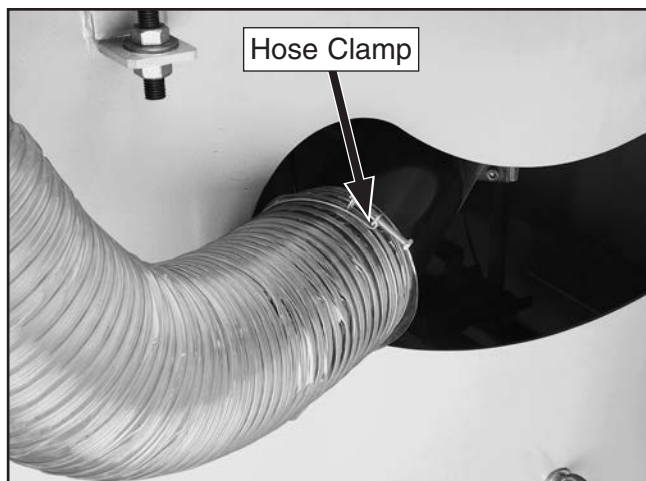

Figure 55. 5" Dust hose connected.
1. Secure 5" dust hose to port located under table with hose clamp, as shown in **Figure 55**.